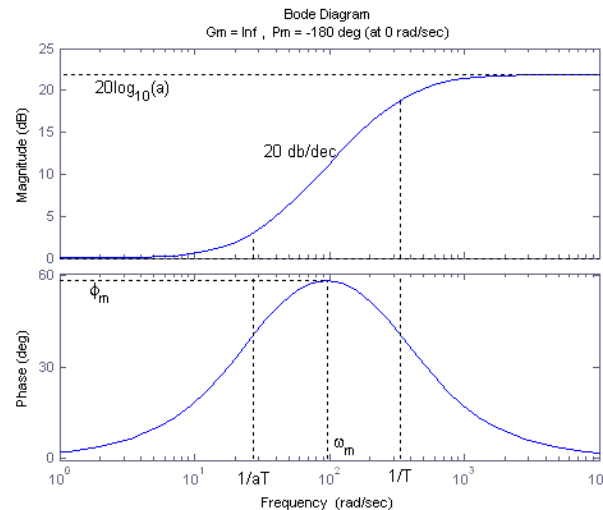

Figure 3-2: Bode plot of a typical lead compensator
4. Compute  $\alpha$ . To attain the maximum phase  $\phi_m$  at the frequency  $\omega_m$  as shown in Figure 3-2, the compensator is required to add  $20 \log_{10}(\alpha)$  of gain. Here,  $\omega_m$  is the geometric mean of the two corner frequencies from the zero and pole of the lead compensator, respectively, i.e:
A typical Bode plot of a lead compensator is shown in Figure 3-2.